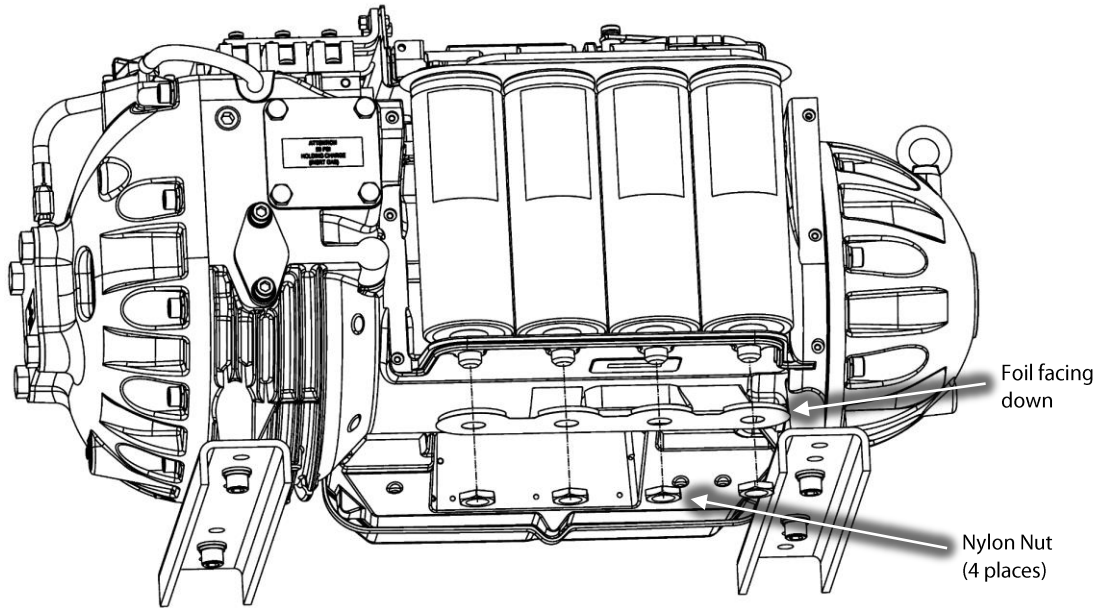

Figure 12 – Capacitor Nut Removal
22. Remove the nylon nuts and foil at the base of the DC capacitor assembly, under the main compressor housing. Refer to Figure 12 (Capacitor Nut Removal).
14. Place the capacitor membrane foil side down, underneath the main compressor housing and then reinstall the nylon nuts to the base of the DC capacitor assembly, under the main compressor housing and torque to 7 Nm (62 in.lb). Refer to Figure 12 (Capacitor Nut Removal).